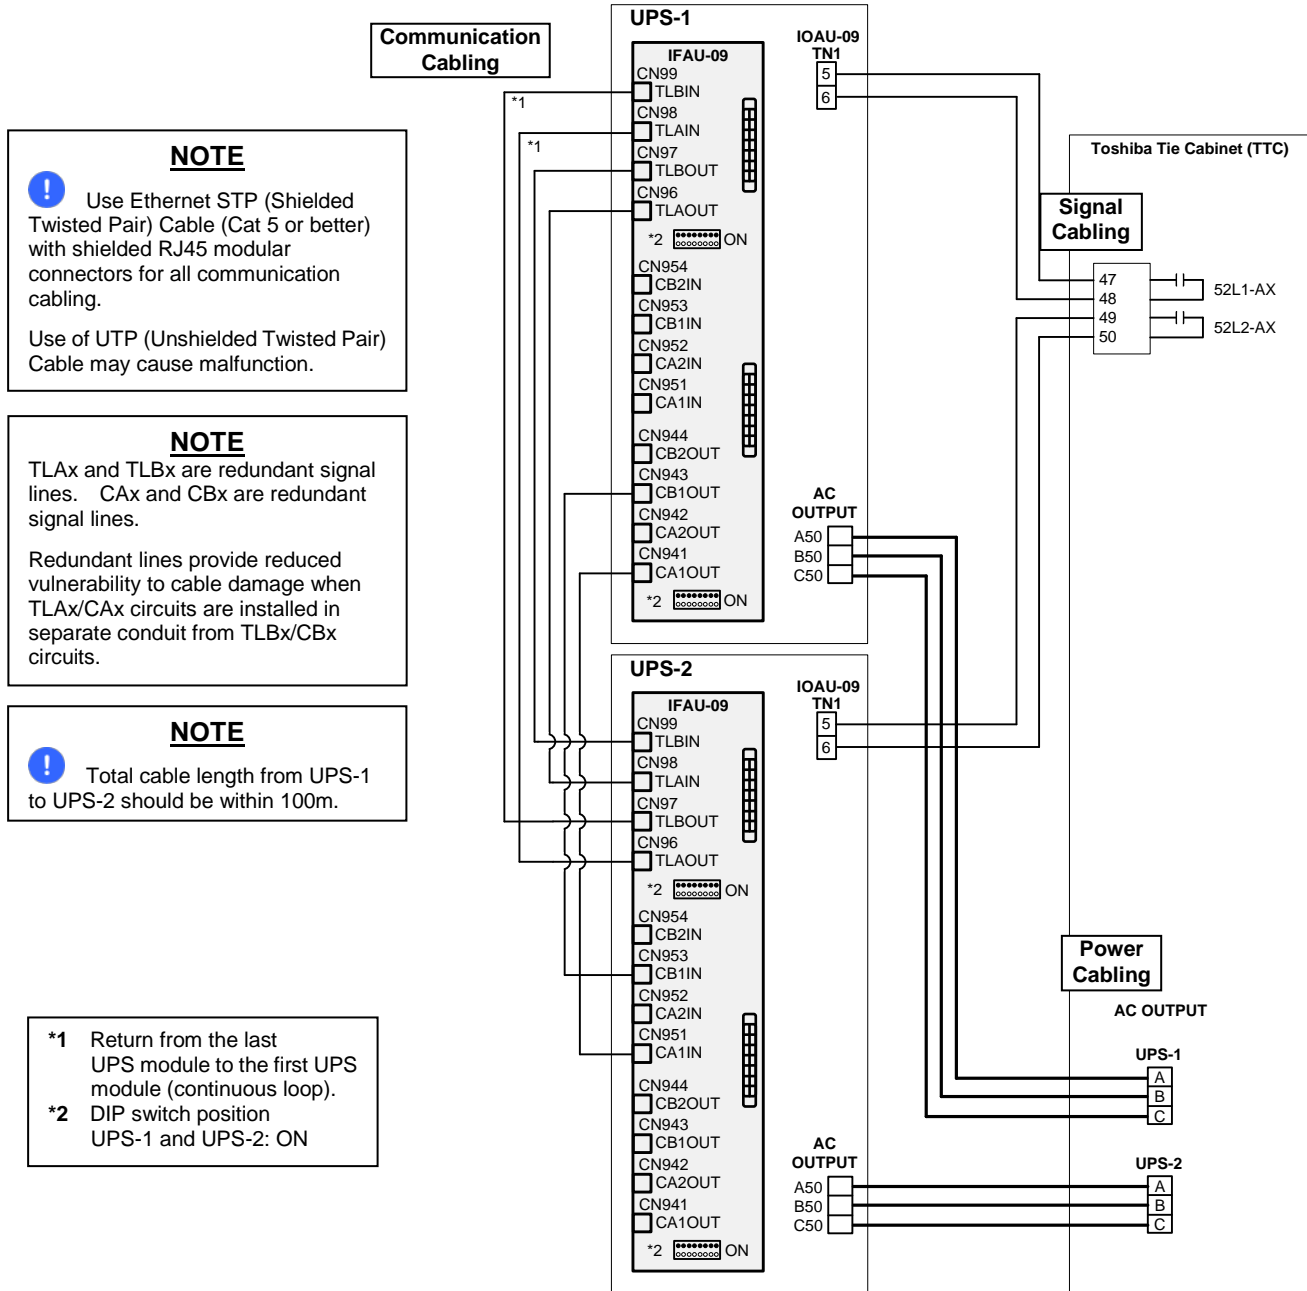

Figure 5-15 Diagram of Communication, Power & Control Wire Connections for 2 units in MMS Configuration (300-750kVA)
- Parallel control signal for CN941, CN942, CN943, CN944, CN951, CN952, CN953, CN954 as shown in Figure 5-15 to Figure 5-20.